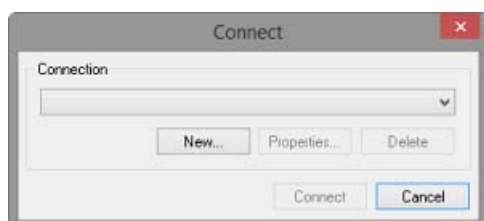

FIG. 410 Connect dialog
1. Select **Transfer > Connect** (or click the toolbar button) to open the *Connect* dialog (FIG. 410):
1. Select **Transfer > Connect** (or click the toolbar button) to open the *Connect* dialog (see FIG. 410 on page 285).